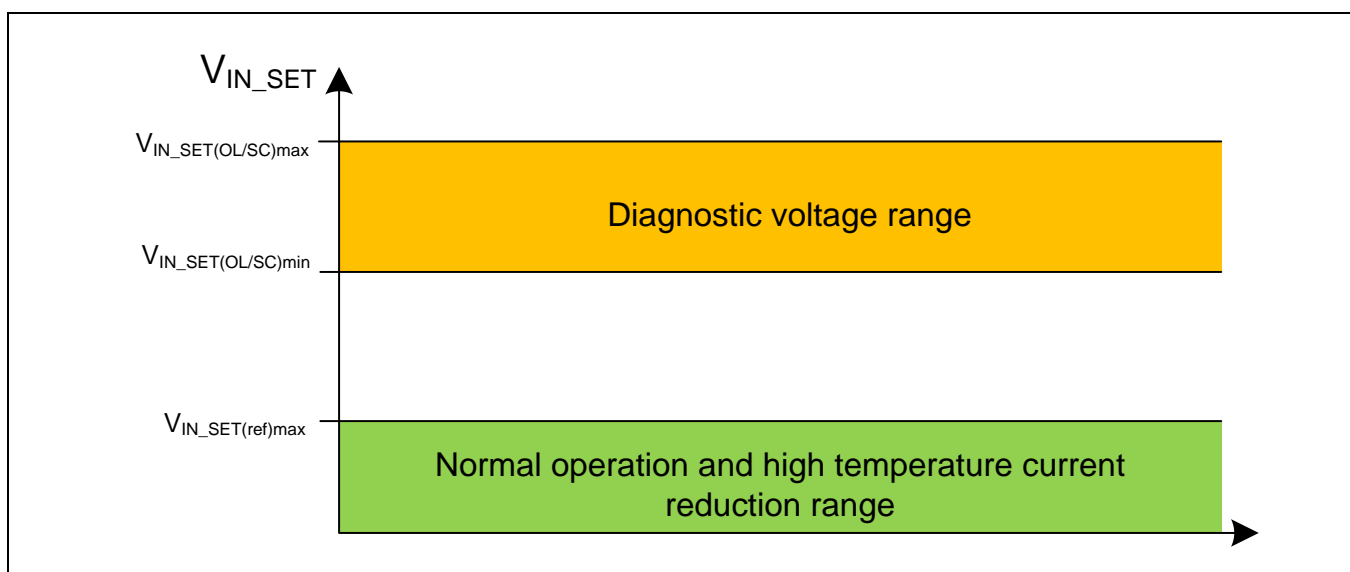

Figure 14 Voltage domains for IN_SET pin, if ST pin is connected to GND
- The IN_SET pin when used as a diagnosis pin has 2 voltage levels, one for setting the current level (1.23V typ.) and one for the diagnosis (5V typ.). This is shown in Figure 14. In case the IN_SET pin is used for diagnosis (ST pin grounded), the IN_SET pin will go to a high level state (5V typ.) when a fault is present.